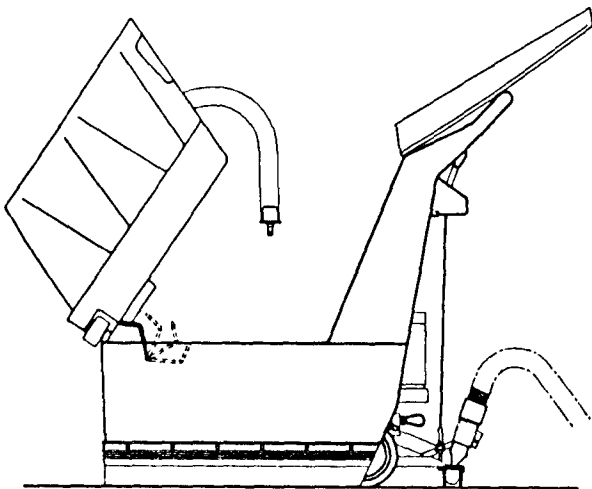

Figure1
4. Position tank kickstand as shown below, figure 1, to hold tank in upright position. To lower, raise tank slightly forward and manually move kickstand to freed position.